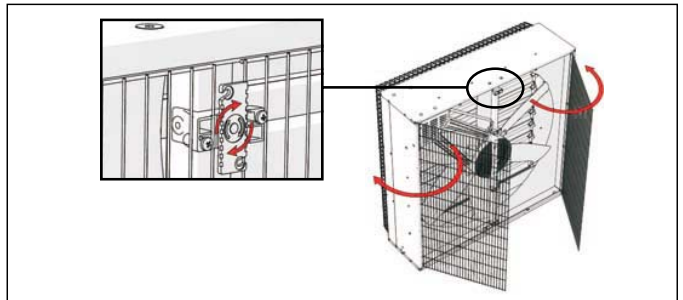

Fig.7
- In the wall, there should be a square hole 10mm larger than the size of the device to facilitate insertion (**Figure 7**).